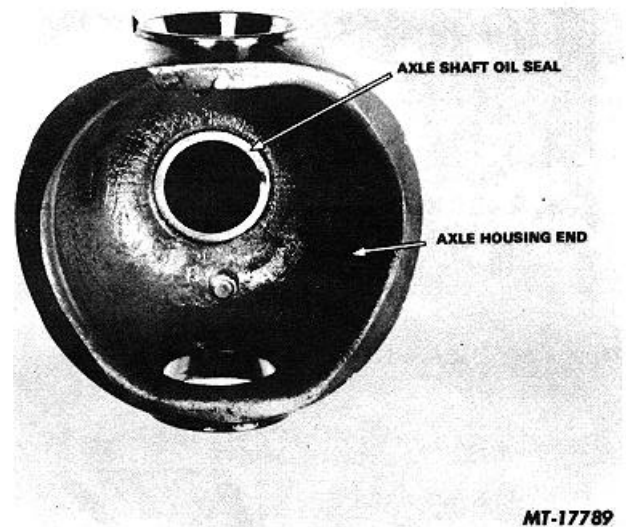

Fig. 13 Axle Shaft Oil Seal
1. To replace axle shaft oil seal (Fig. 13) pry out old seal from bore of axle housing and discard. Install new seal. Seal must contact counterbore.